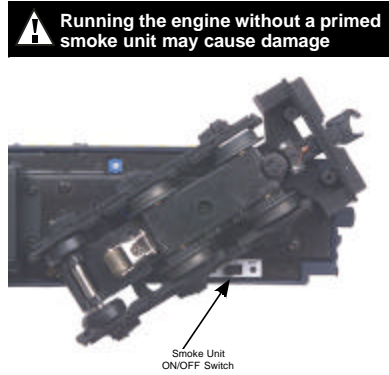

Figure 3: Smoke Unit Switch Location
If you choose not to add the fluid (or have already added the fluid but choose to run smoke-free), turn off the smoke unit switch located under the engine (see Fig. 3).
1. To access the gear box, remove the cab from the chassis by unscrewing the chassis screws as seen in Figure 3 and lifting the cab from the chassis.
First, remove the trucks from the chassis by unscrewing the body mounting screws as noted in Figure 3. Next, remove the trucks from the chassis by unscrewing the truck mounting screw also noted in Figure 3. Finally, turn the removed truck over and locate and remove the truckside screws to gain access to the drive wheel traction tires behind the trucksides.